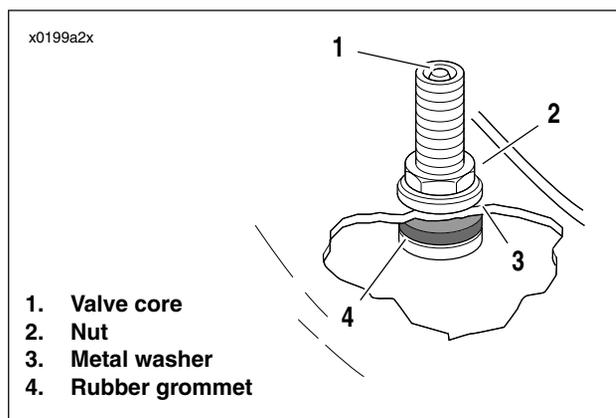

Figure 2-85. Valve Stem
- See Figure 2-85. Replace damaged or leaking valve stems.